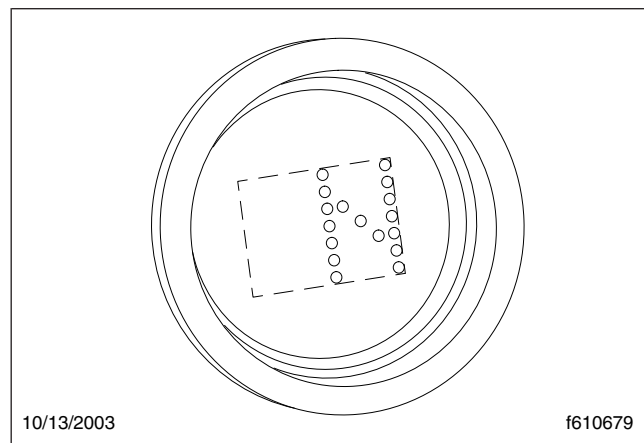

Fig. 15.5, Gear Indicator: Neutral
2. Wait for the gear indicator to show a solid N. See Fig. 15.5. When the N is solid (not flashing), the transmission controller is powered up.